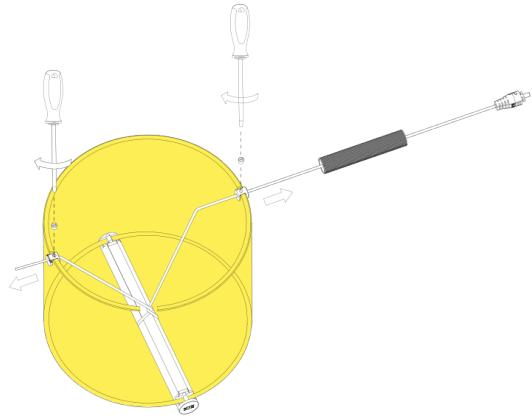

Fig.4
Unfasten the two connector fixing screws (B). (Fig.4)